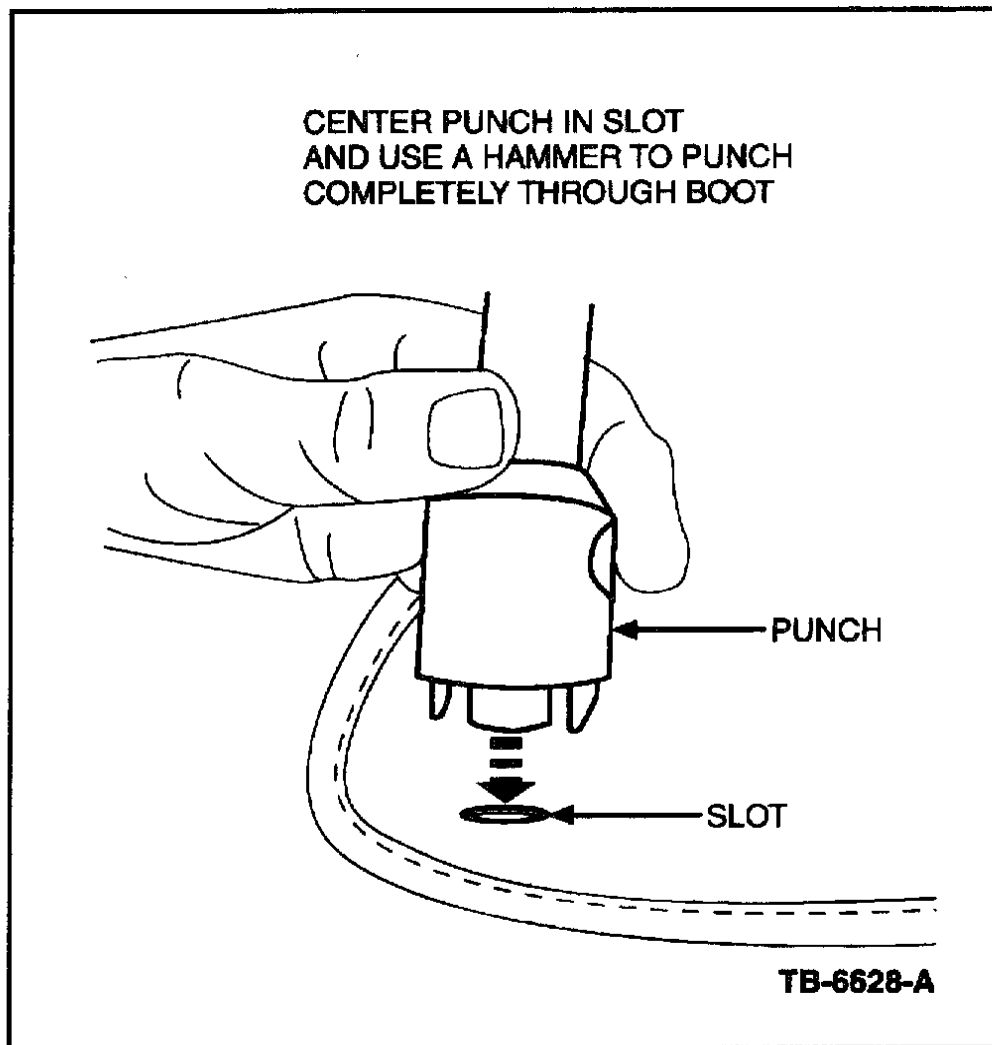

Figure 2
3. Locate the punch into the remaining slot (Figure 2) in the boot. Center the oval inside of the punch with the center of the slot. Lay the slot of the boot over a softer surface (ie. wood) and strike the punch with a hammer.